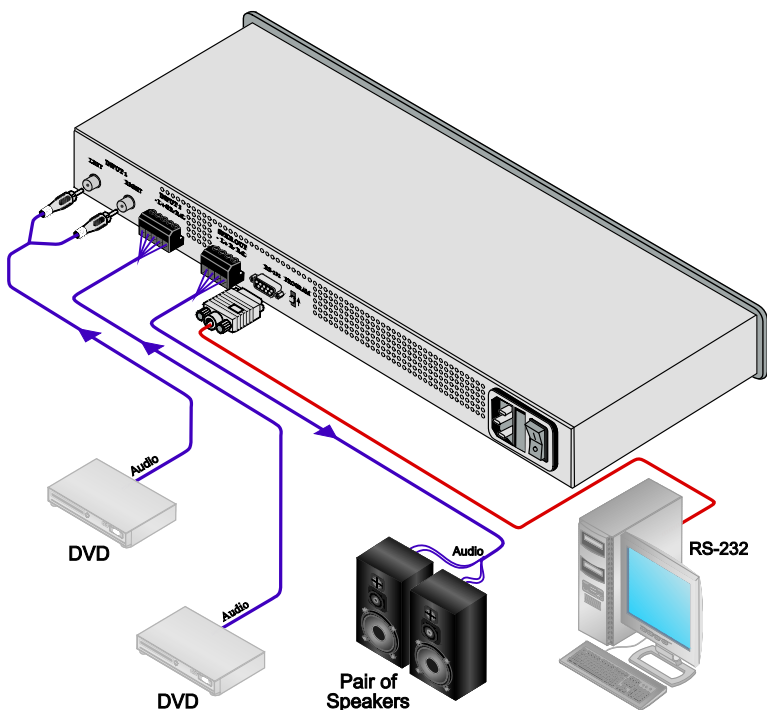

Figure 2: Connecting the 905 Power Amplifier
To connect the **905**, as illustrated in the example in Figure 2, do the following:
4. Connect the power cord to the power socket and connect the cord to the mains electricity (not shown in Figure 2).